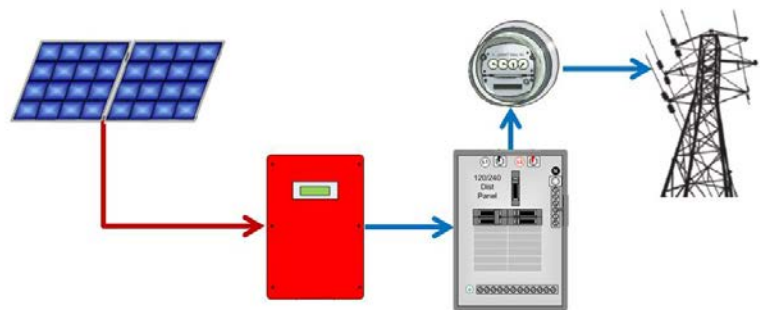

Figure 1 - Grid Tied Inverter Current Flow
The vast majority of DC to AC grid tied inverters move excess DC power from photovoltaic (PV) arrays to the utility power grid once the site’s local power demand has been met, as illustrated in Figure 1.